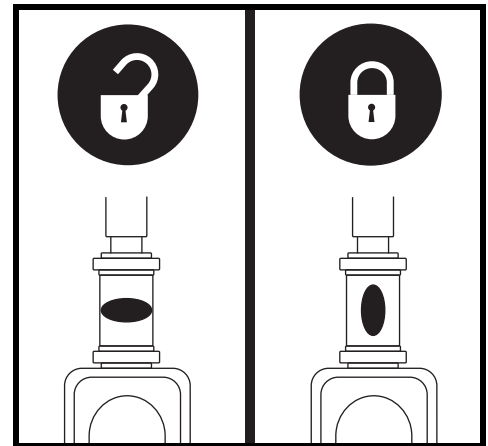

Figure 25. Tiller Lock Knob
2. Lock the tiller in the straight ahead position by pushing the tiller lock knob in and turning it clockwise 90°. **See figure 25.** The front wheel must face forward in order to lock the tiller.
1. Remove the key from the key switch and then lock the tiller in the straight ahead position by pushing the tiller lock knob in and turning it clockwise 90°. **See figure 25.** The front wheel must face forward in order to lock the tiller.
6. Unlock the tiller by turning the tiller lock knob 90° counterclockwise. See figure 25.